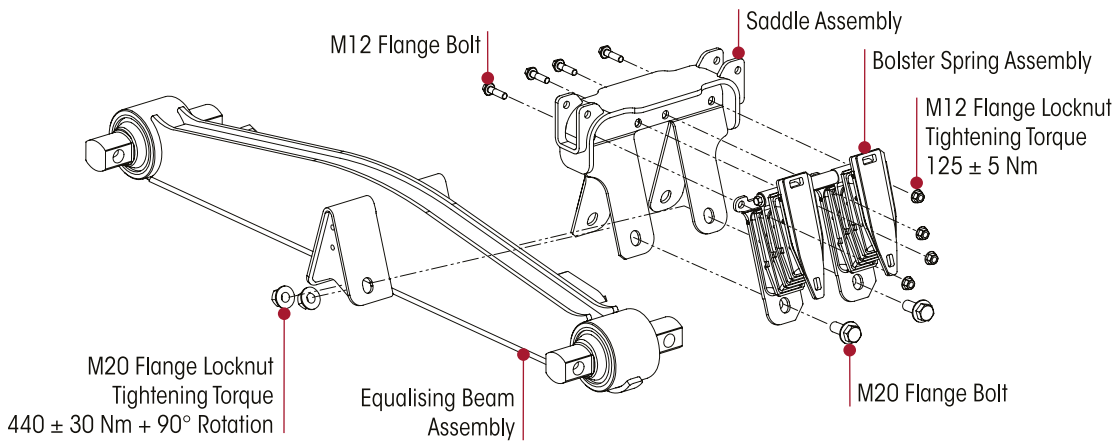

Figure 29: Saddle and Bolster Springs
11. Install the M20 fasteners connecting bolster to the equalising beam and tighten to **440 Nm + 90°** rotation torque, refer Figure 29.